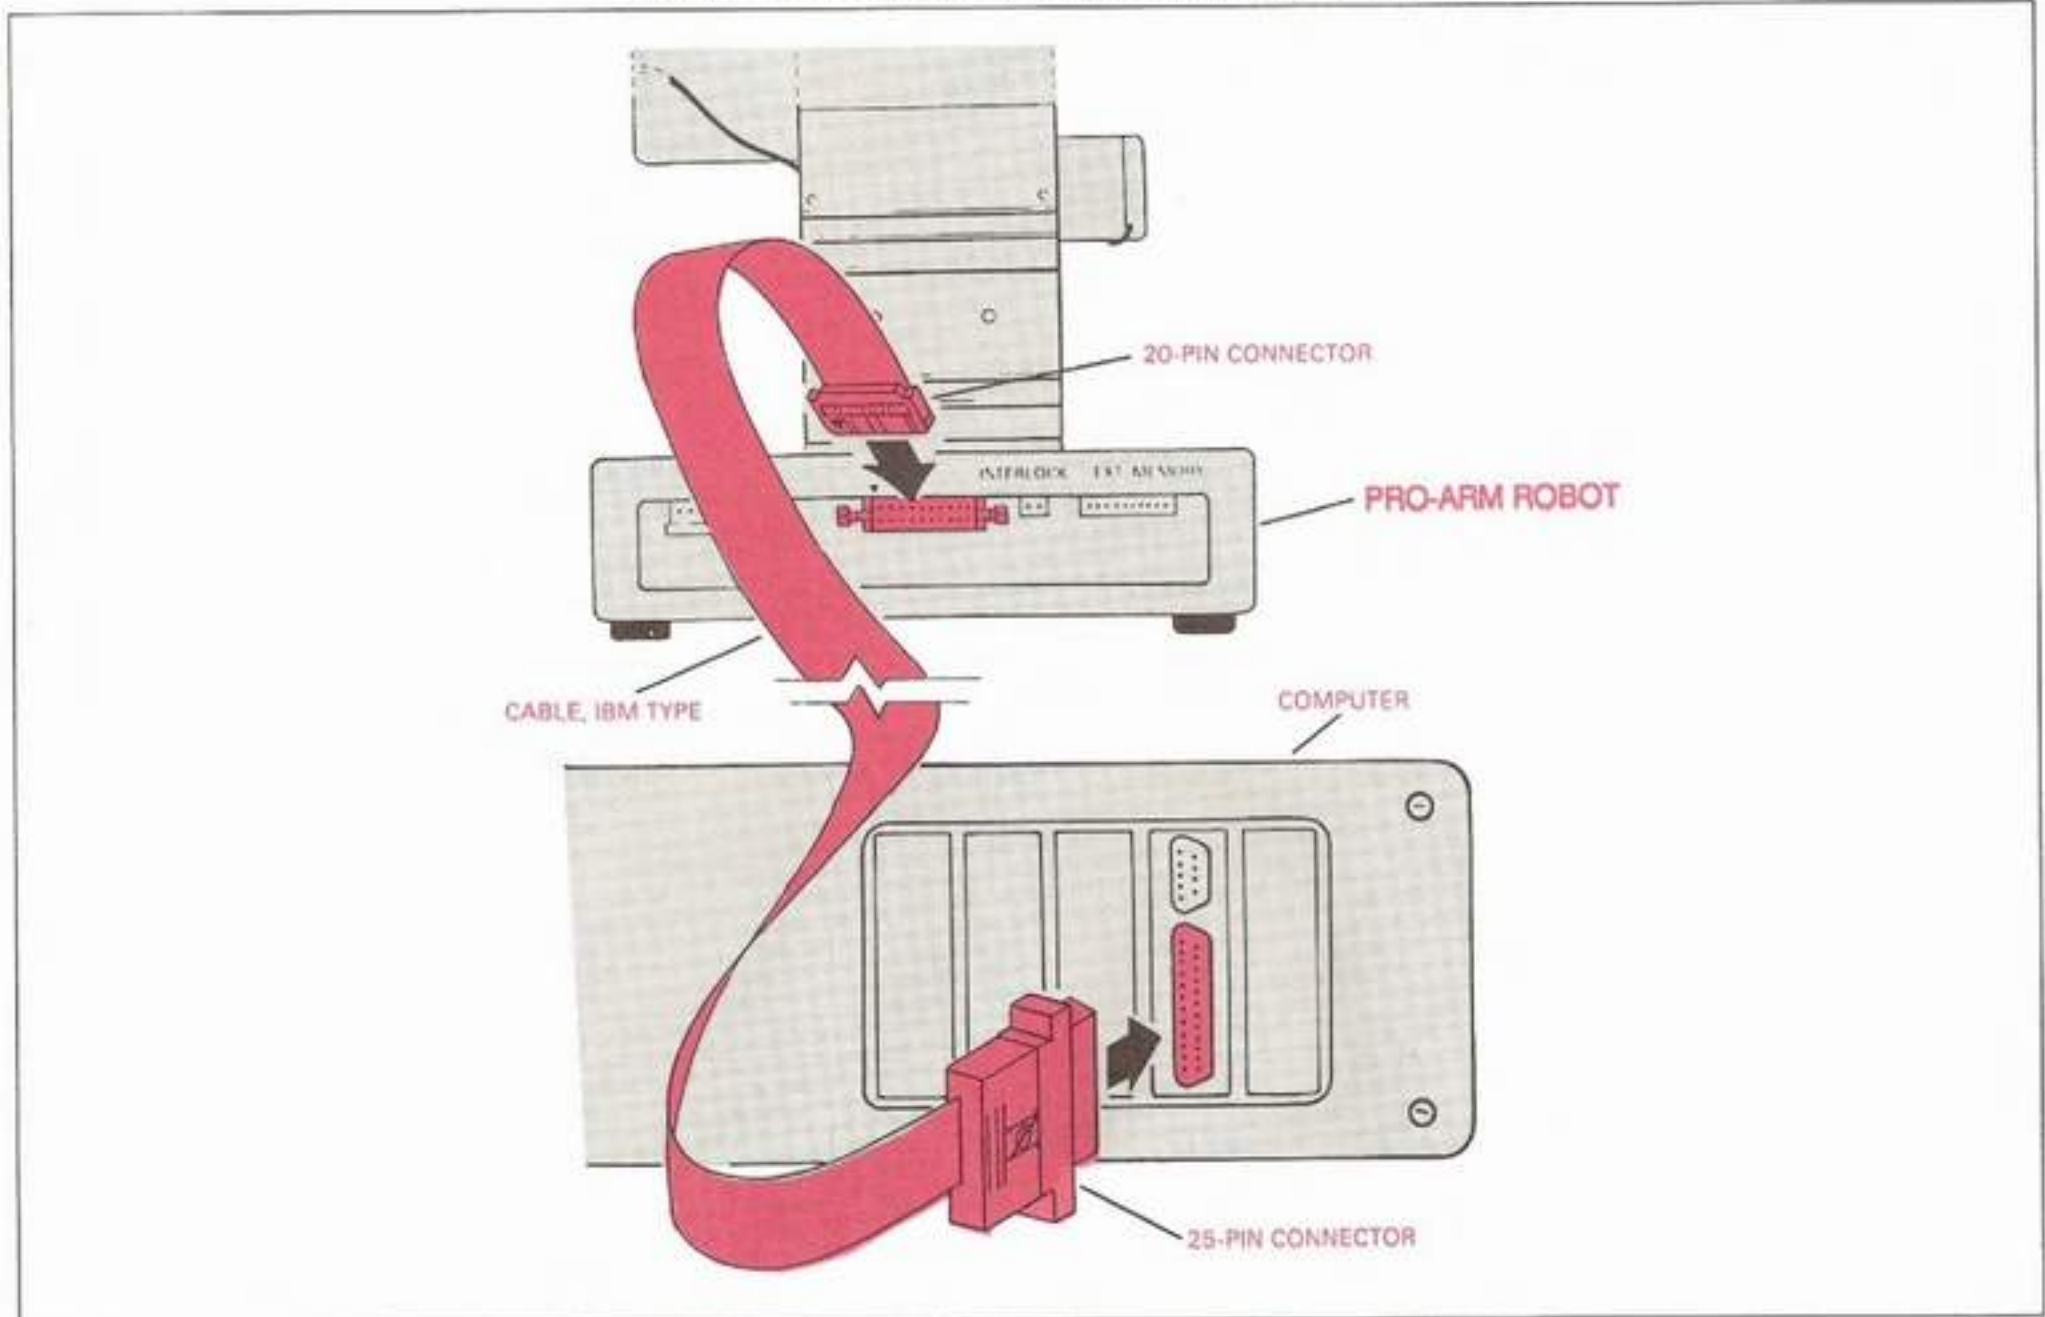

Fig. 4: Connecting the IBM-type Interface Cable
- ___ d. Plug the 25-pin (D-shell) cable connector into the parallel-printer port connector on the rear of the computer. (Refer to Fig. 4.)
- ___ e. Plug the 20-pin connector into the input connector marked "COMPUTER", on the back of the Pro-Arm's base, matching the arrow on the connector with the arrow marking on the robot. The connector can be inserted in only one direction. Again, refer to Fig. 4.